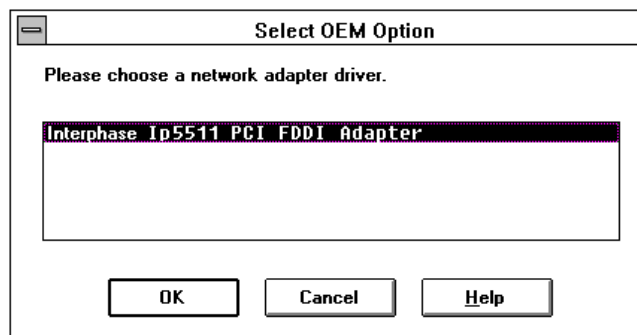

Figure 4-4. Select OEM Option Dialog
5. Insert the diskette or CD-ROM containing the Windows NT driver software, enter the correct path (if need be) to the drive, and click **OK** to display the following dialog (Figure 4-4):